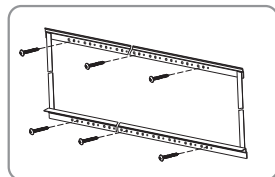

Figure 25
- a. Woody wall installation: Follow the screen installation step 3 and fix the  $\phi 5 \times 40$  mm tapping screws to the holes in the top and down installation bars, three screws on each bar. ( Figure 25 )